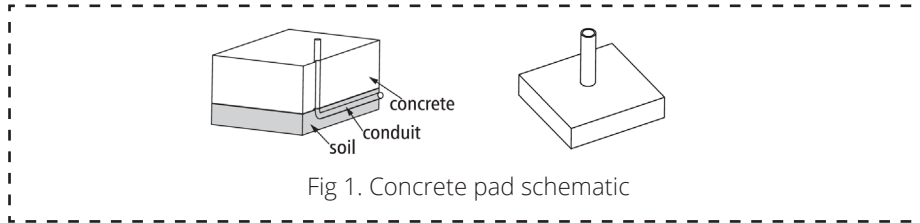
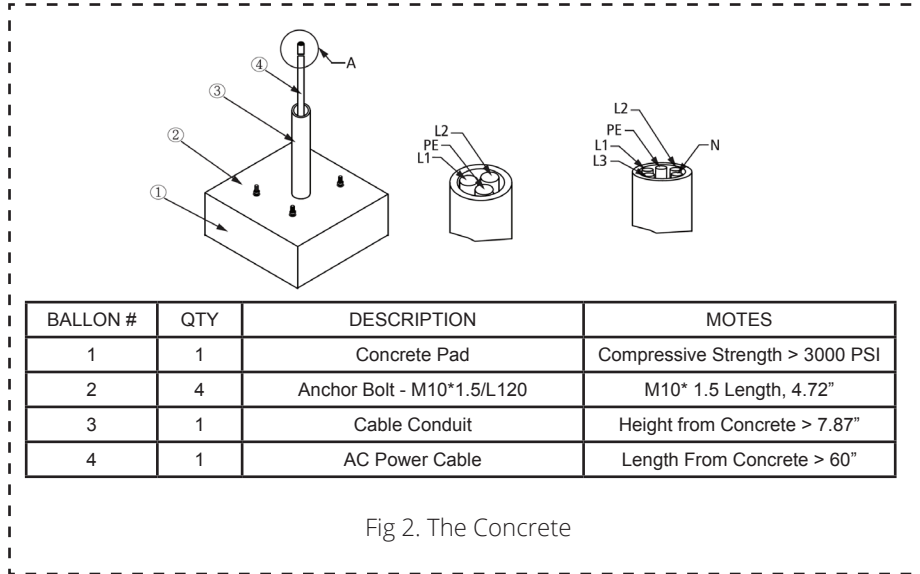
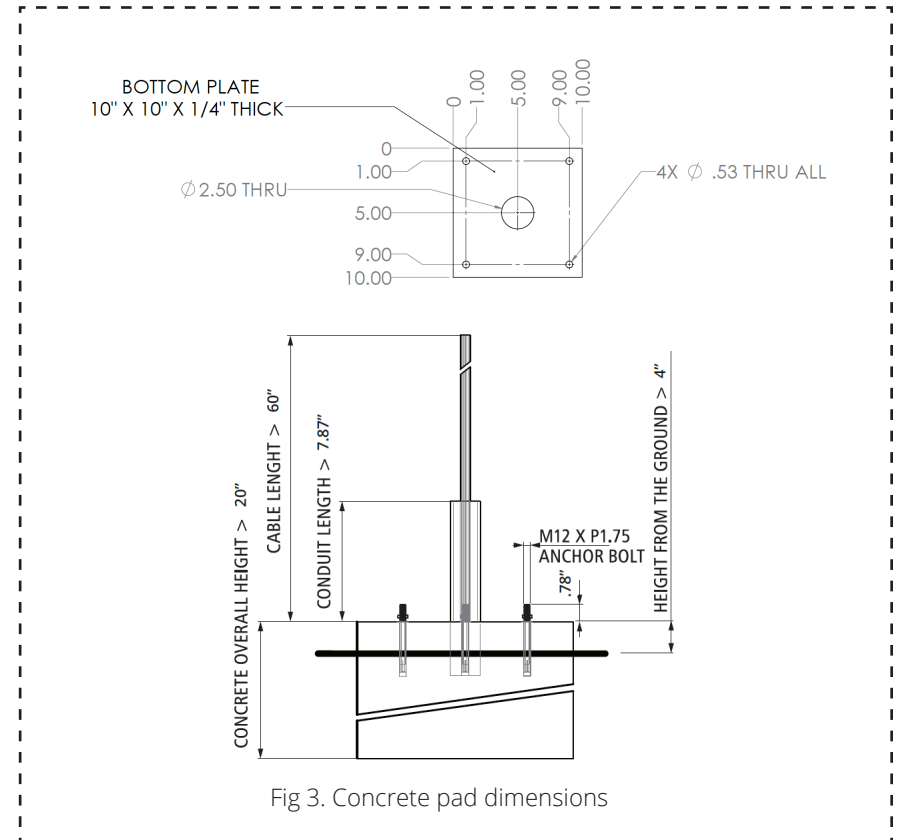

Fig 1. Concrete pad schematic
Fig 2. The Concrete
Fig 3. Concrete pad dimensions
- First build the concrete bad for the pedestal with a compressive strength of over 3000psi. See Fig 1 & Fig 2 for reference. Concrete pad dimension recommendation: W 15.75" x L 15,75: x 20" as shown in Fig 3.
- Next, mount 4 anchor bolts sized M12x1.75 onto the concrete pad base using the dimensions in fig 3. The height of the bolth sould be at least .80" above the concrete pad and depth of the bolt must be at least 3.55".